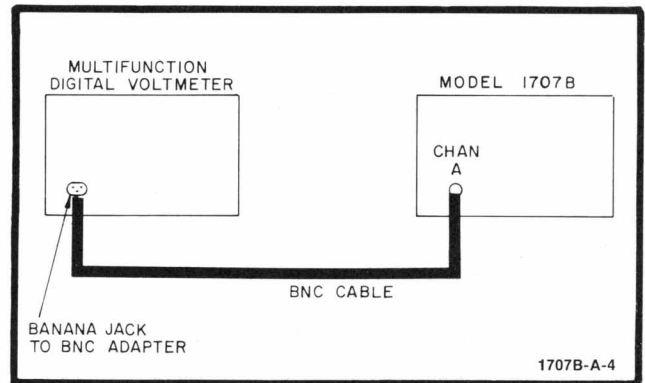

Figure 5-5. Input Resistance Test Setup
- a. Connect instruments as shown in figure 5-5.